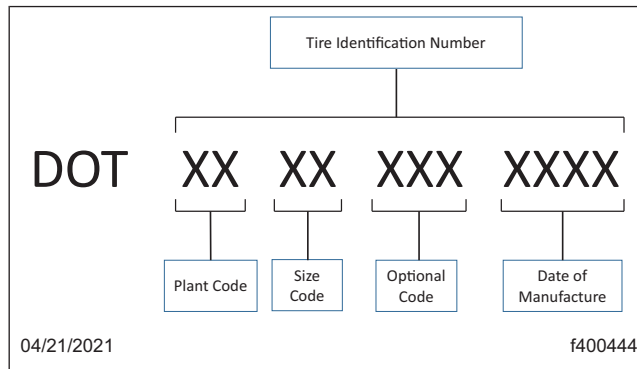

Fig. 8, 11 Digit DOT TIN
1. Locate the DOT Tire Identification Number (TIN) on each tire. See Fig. 6, Fig. 7 and Fig. 8.